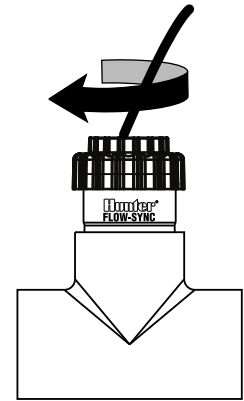

Figure 3
5. Hand-tighten the WFS sensor cap. (figure 3).